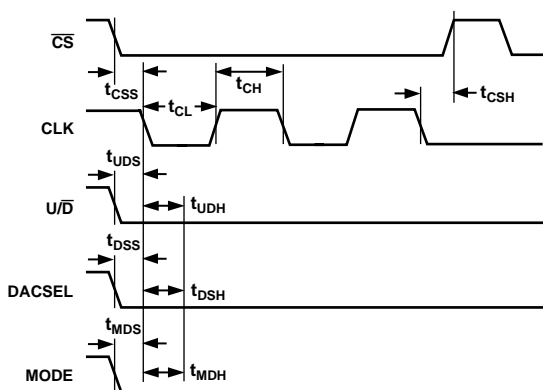

Figure 2. Detail Timing Diagram
The AD5222 provides a 128-position, digitally-controlled, variable resistor (VR) device. Changing the VR settings is accomplished by pulsing the CLK pin while \overline{CS} is active low. The U/D (UP/DOWN) control input pin controls the direction of the increment. When the wiper hits the end of the resistor (Terminal A or B) additional CLK pulses no longer change the wiper setting. The wiper position is immediately decoded by the wiper decode logic changing the wiper resistance. Appropriate debounce circuitry is required when push-button switches are used to control the count sequence and direction of count. The exact timing requirements are shown in Figure 2. The AD5222 powers ON in a centered wiper position, exhibiting nearly equal resistances of R_{WA} and R_{WB} .